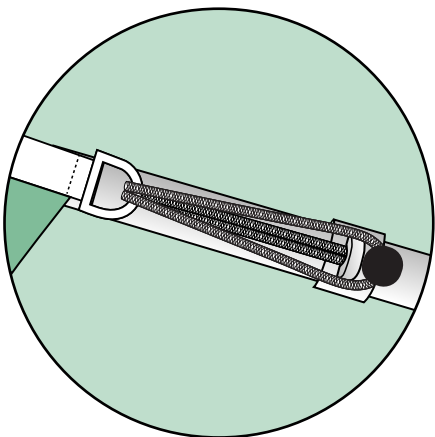

Fig 4
- 4, Pass the bungee through the D-ring and then back over the black ball (see Fig 4).